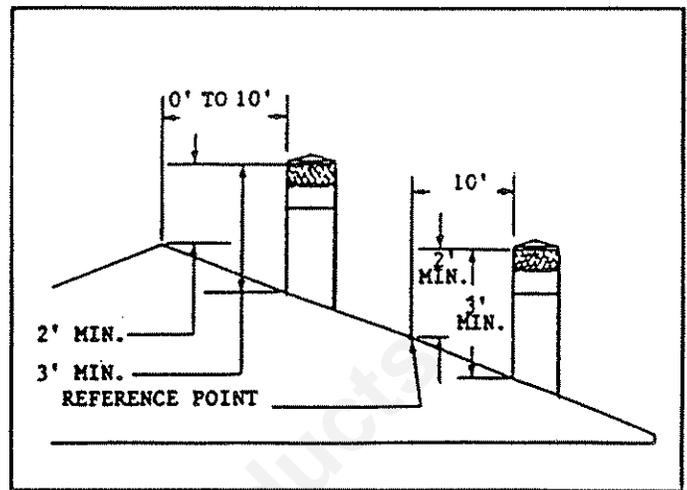

FIGURE 9
**WARNING:** Major U.S. building codes specify minimum chimney and/or vent height above the roof top. These minimum heights are necessary in the interest of safety. These specifications are summarized in the **Ten Foot Rule** (See Fig. 9). The key points of this rule are:
2. If a horizontal distance from the edge of the vent or chimney to the peak of the roof is more than 10 feet, a vent or chimney height reference point is established that is on the surface of the roof a distance of 10 feet from the edge of the vent or chimney in a horizontal plane. (See Fig. 9) The top of the vent or chimney must be at least 2 feet above this reference point, but never less than 3 feet in height above the highest point where it passes through the roof.